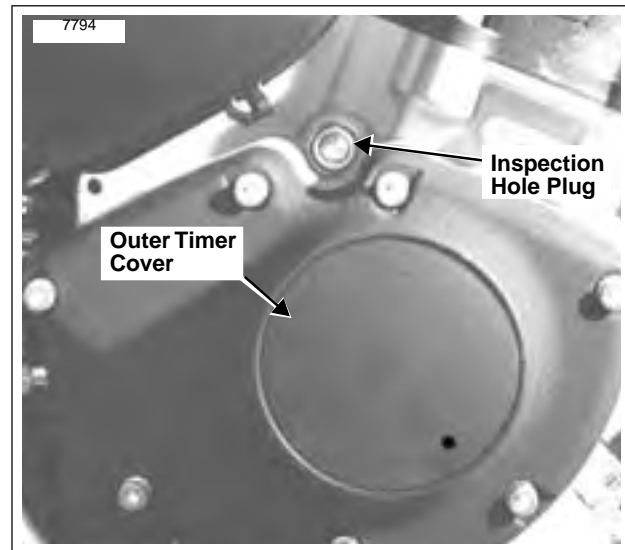

Figure 7-22. Timer Cover and Inspection Hole
1. See Figure 7-22. Locate outer timer cover at bottom of gearcase cover on right side of vehicle.
7. See Figure 7-22. Rotate rear wheel from **right** side of vehicle in direction of forward motion (clockwise) until TDC mark (vertical line) is centered in timing inspection hole.